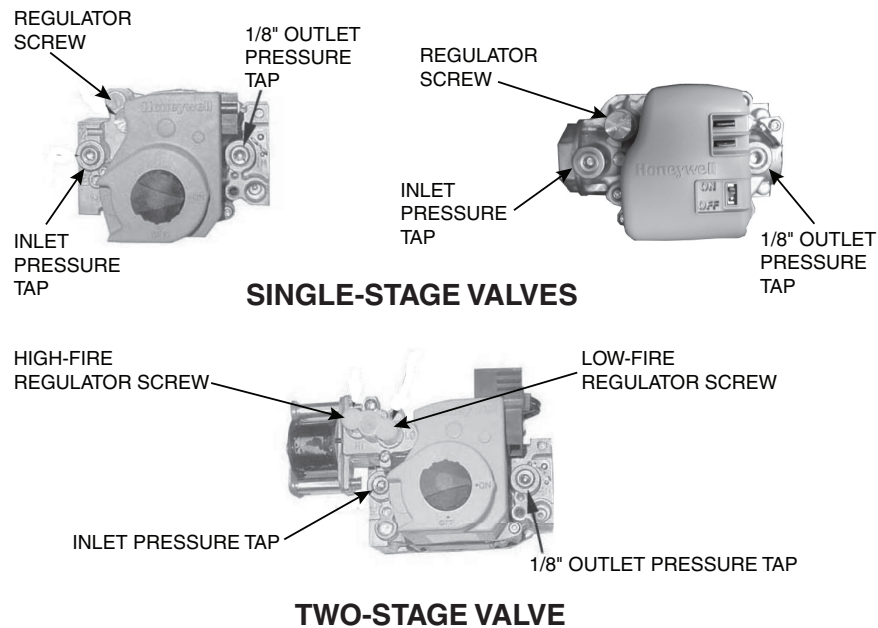

Figure 22. Combination Gas Valves
2. Connect manometer to 1/8-inch output pressure tap on valve (see Figure 22).
- If manometer reading does not indicate that valve outlet pressure is in accordance with Table 22, remove cap from regulator screw(s) (see Figure 22) and adjust pressure by turning regulator screw IN (clockwise) to increase pressure or OUT (counterclockwise) to decrease pressure.
4. Connect manometer to 1/8-inch output pressure tap on valve (see Figure 22).
- Remove cap from regulator screw (see Figure 22) and adjust pressure in accordance with Table 22 by turning regulator screw IN (clockwise) to increase pressure or OUT (counterclockwise) to decrease pressure.
- Remove cap from low-fire regulator screw (see Figure 22) and adjust pressure in accordance with Table 22 by turning regulator screw IN (clockwise) to increase pressure or OUT (counterclockwise) to decrease pressure.
10. Connect manometer to inlet pressure tap (see Figure 22). While heater is operating, measure inlet pressure, which should be between 5 and 13.5 IN WC for natural gas or between 11 and 13.5 IN WC for propane.